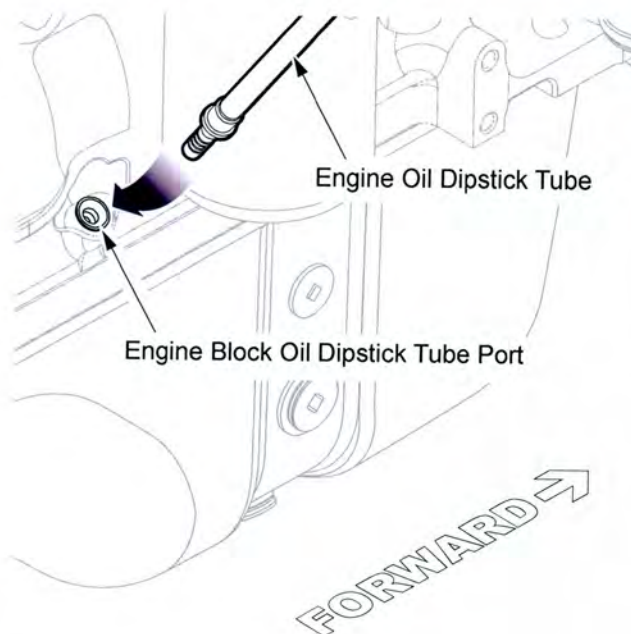

Figure 3
5. Insert the new engine oil dipstick tube into the engine block oil dipstick tube port (see Figure 3).